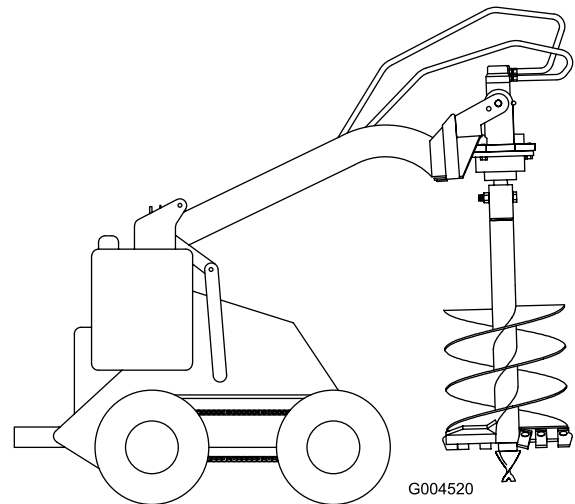

Figure 9
- Raise the auger free of the ground (Figure 9).
- When the auger is vertical, tilt the attachment plate rearward until the drive head contacts the attachment plate to stabilize the auger and keep it from swinging freely (Figure 9).
1. Raise the auger so that it clears the ground and is vertical (Figure 9).